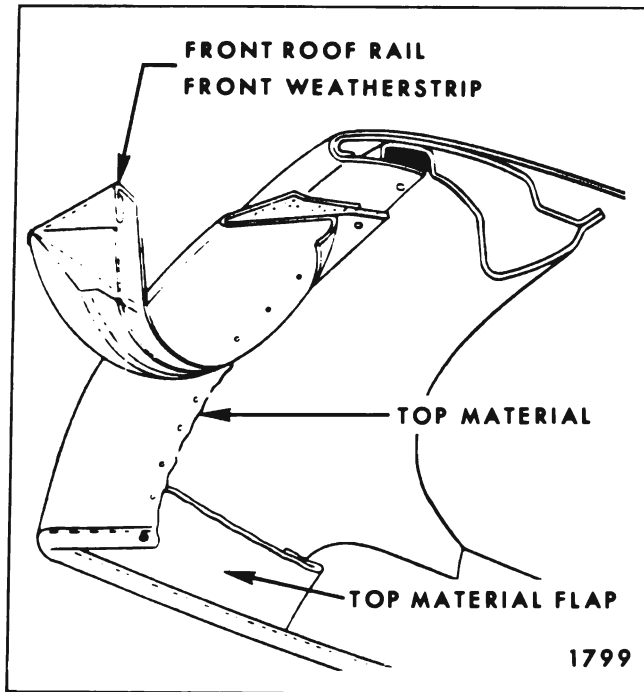

Fig. 13-2 —Top Material At Front Roof Rail
10. Detach top material from front roof rail (Fig. 13-2).
11. Detach top material flaps from side roof front rail (Fig. 13-2).